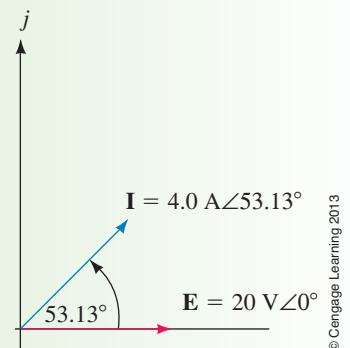

FIGURE 18-29
- The phasor diagram is shown in Figure 18-29.